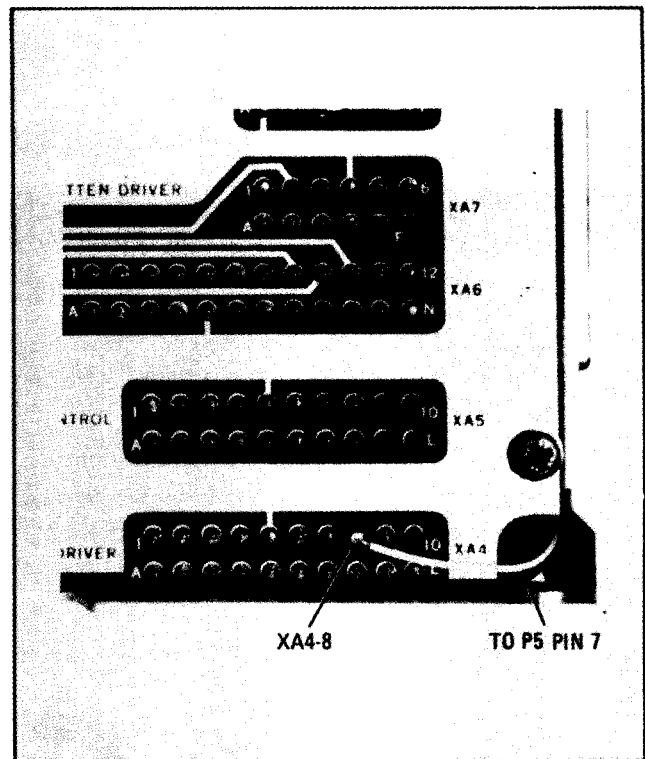

Figure B-2. Connection to A10XA4-8
4. Connect as insulated 4 inch wire between A10XA4 pin 8 (on interconnect board) and rear panel Preselector connector P5 pin 7. Refer to Figure B-2.